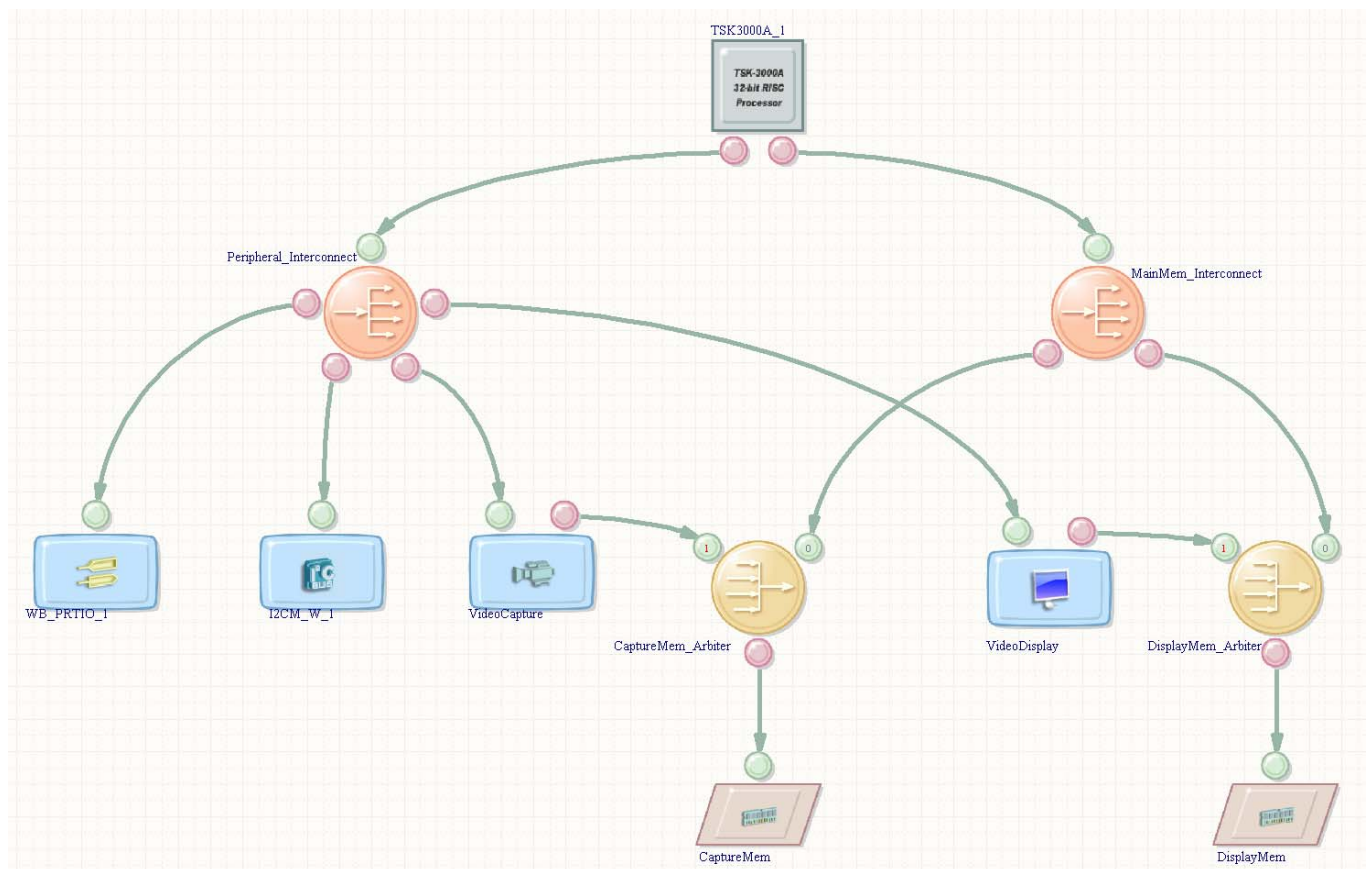

Figure 5. Completed OpenBus design for this tutorial
5. Continue placing the components indicated in Figure 4 as per the OpenBus diagram of Figure 5.
1. Complete the creation of the OpenBus system using the techniques outlined above. The completed OpenBus system can be seen in Figure 5.